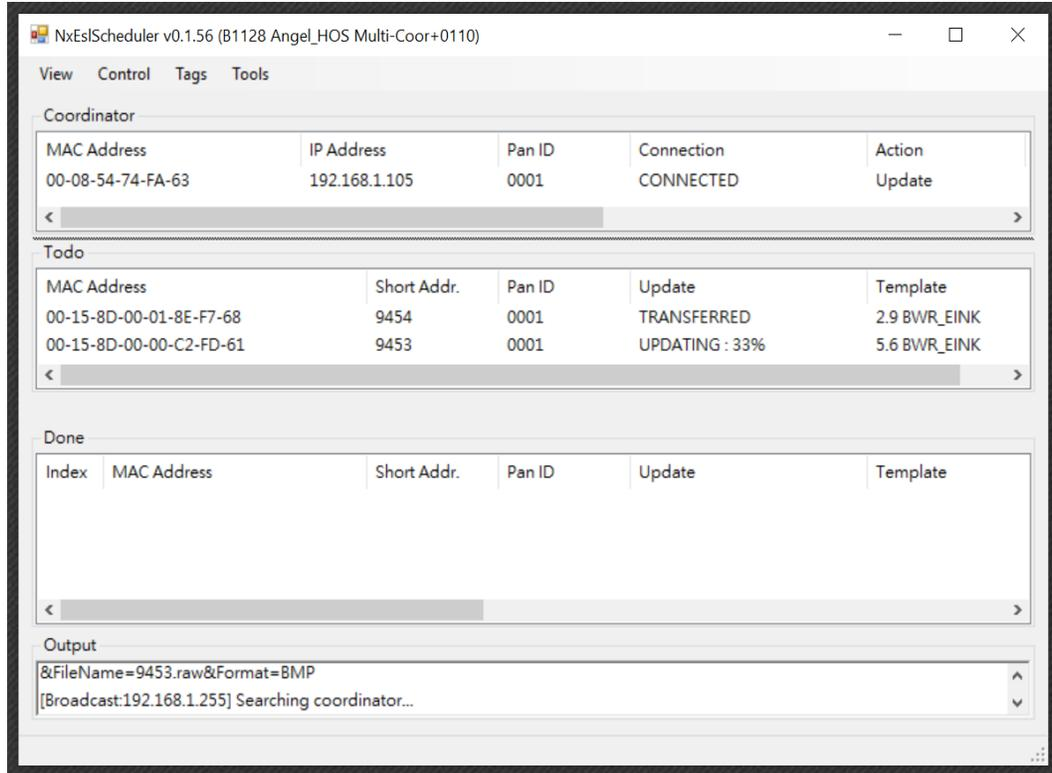

Fig. 13
2. Select the **Tools** tab; then select **Scheduler Coord.** to open the **NxESL Scheduler** dialog box. The scheduler will immediately begin communication with the coordinator and the **ToDo** list will populate with e-Tag update information and current e-Tag status. See Figure 13.